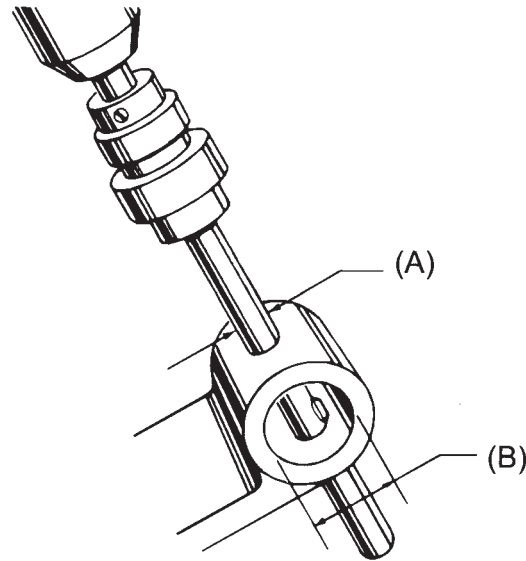

Figure 4
**Used when larger hole is between 2-3/4 to 6 diameters greater than smaller hole. Please contact Cogsdill for complete tool and spare part numbers. See Figure 4 on page 27 for reference.
Standard blades may be used for intersecting hole applications where the larger hole “B” is 12 or more times *greater* than the smaller hole “A” (refer to Figure 4).